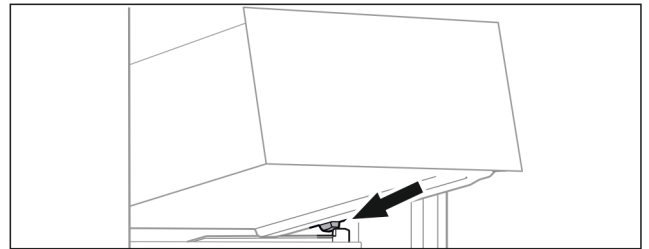

Fig. 28
- ▶ Place drawer at an angle behind the stoppers on the moulded rib. (see Fig. 28)